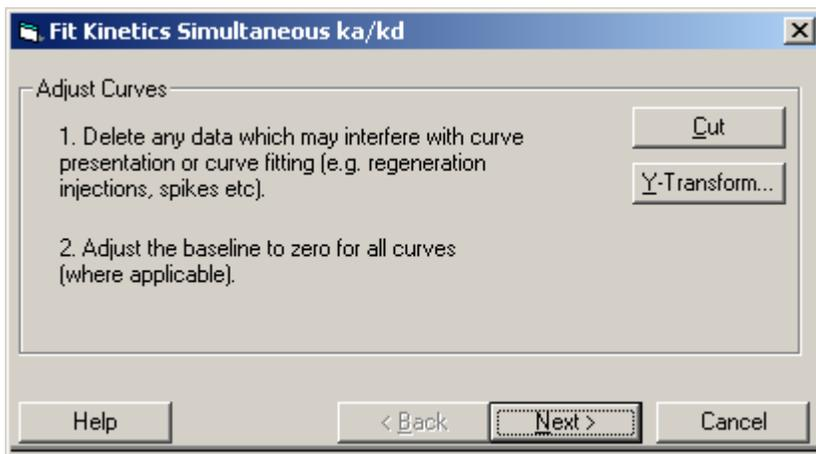

Figure 6.9
- 6.25 'Fit Kinetics, simultaneous ka/kd' window (Fig 6.9) will open.
- 6.26 Click on 'Next' (Fig 6.9).